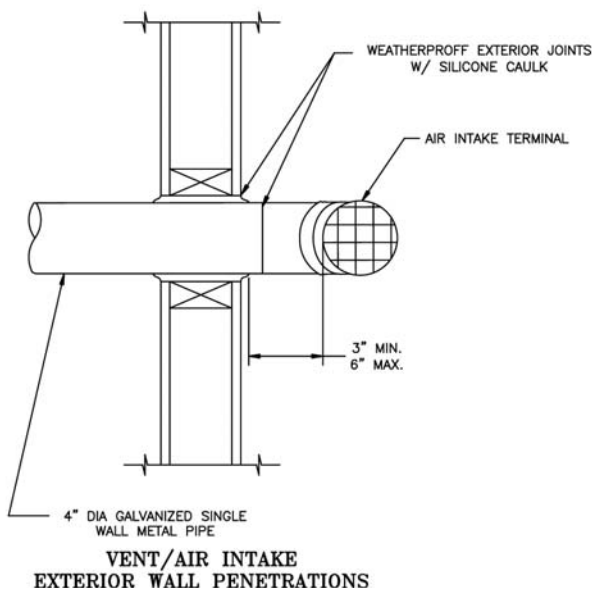

Figure 14: Horizontal Air Intake Pipe Wall Penetration
6. Install air intake terminal. See Figures 14 and 19.